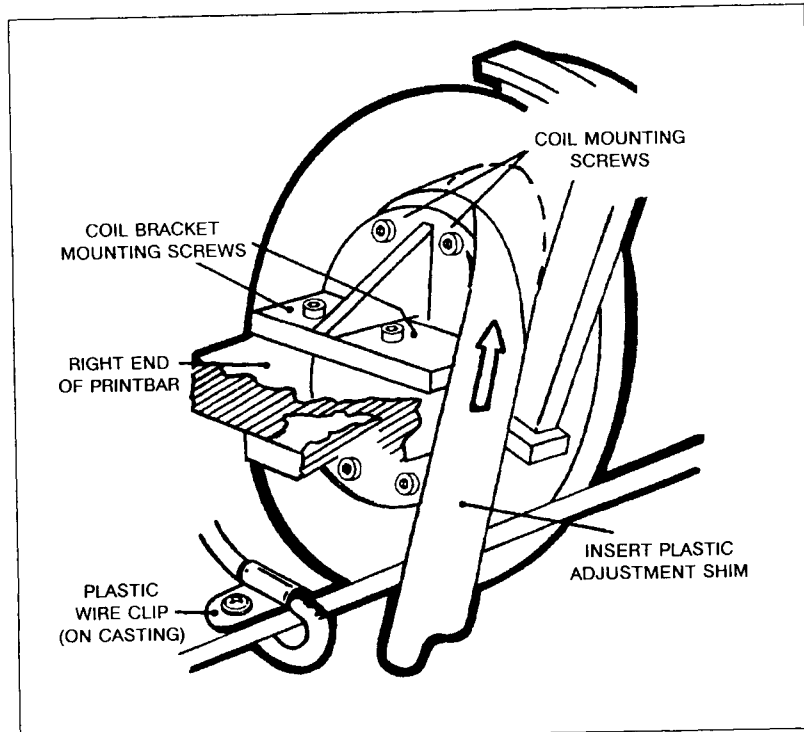

Figure 5-1. Linear Motor Coil Adjustment
- a. Switch the printer offline and set the ON/OFF switch to the OFF (0) position.
- c. Verify that the two 4 mm hex bolts, which mount the linear motor coil bracket to the printbar, are secure (see Figure 5-1).
- d. Slightly loosen the four 3 mm allen screws which secure the coil to the aluminum bracket (see Figure 5-1). Loosen these screws just enough to allow the coil to be moved for the adjustment.